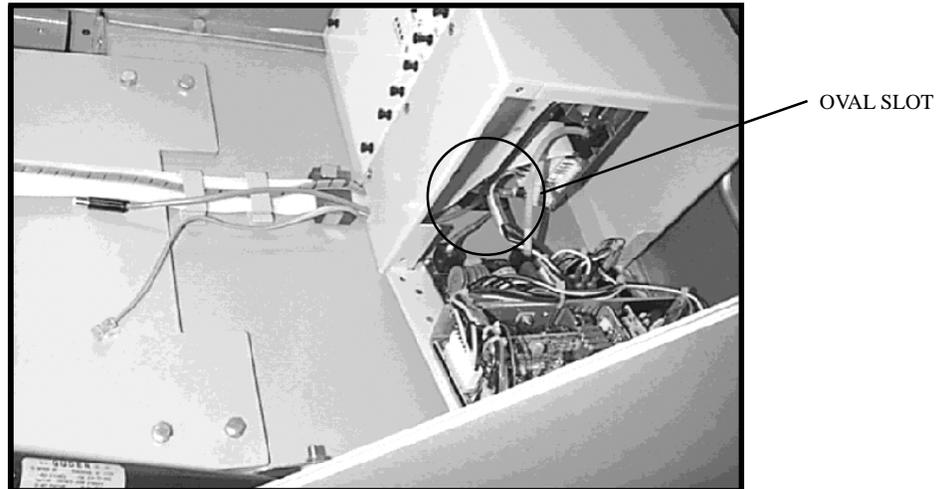

FIGURE 3-8
14. From the bottom compartment of the terminal, lead the cables up through the oval slot under the card cage. Then guide the cables out through the opening in the bottom front of the card cage. (See Figure 3-8.)